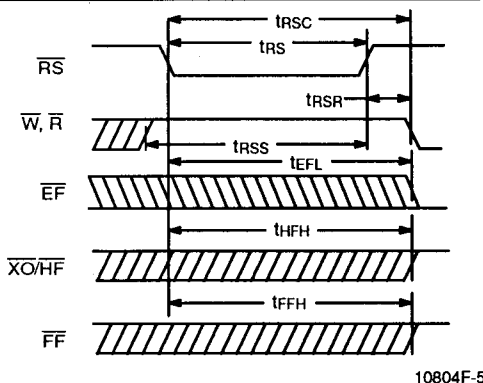

Figure 2. Reset Timing
Upon power up, the FIFO must be initialized with a Reset cycle. (See Figure 2.) The states of XI and FL are used during the reset cycle to determine the FIFO's mode of operation, as shown in Tables 1 and 2. For a valid reset cycle to occur, both the Read (\bar{R}) and Write (\bar{W}) signals must be HIGH t_{RSS} prior to and t_{RSR} after the rising edge of Reset (\bar{RS}). The reset cycle initializes the FIFO to an empty condition, signified by the Empty Flag (\bar{EF}) being LOW, active, and both the Half-Full (HF) and Full Flag (\bar{FF}) being HIGH, inactive.